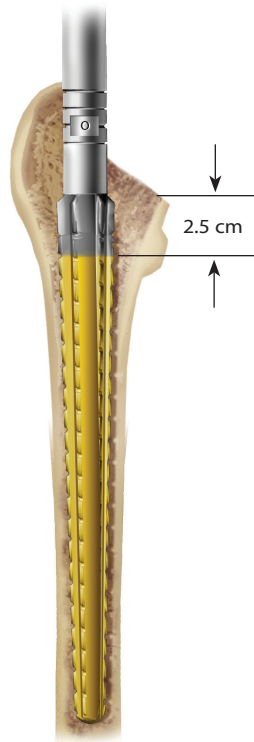

Figure 7
**Note:** Fully toothed broaches are recommended with the Echo fracture system. If using fully toothed broaches, the reaming step may be skipped. Partially toothed broaches can be used, but care should be taken when reaming to ensure the reamer is advanced 2.5 cm (approximately 1 inch) past the medial resection level of the femur, relative to the level of gold nitride coating (Figure 7).
Tapered side cutting reamers are introduced in a sequential fashion beginning with the smallest size reamer and progressing until the cutting flutes encounter resistance from the endosteal wall. The reamer is advanced until the gold portion is beyond the level of the planned medial resection (Figure 7).